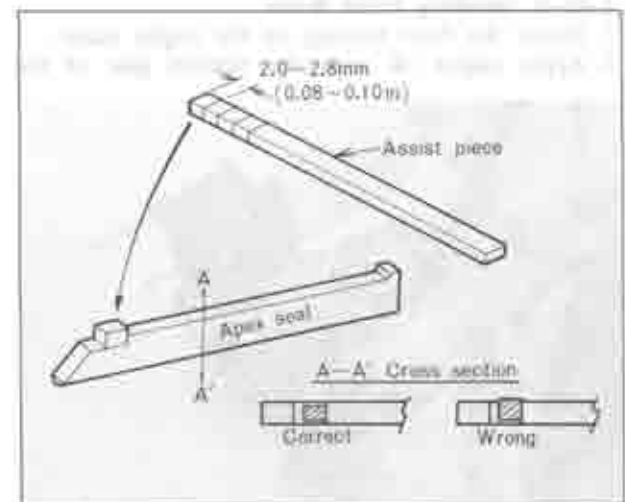

Fig. 1-54 Sticking assist piece
3. Peel the paper stuck on the assist piece and stick the assist piece on the apex seal, as shown in Fig. 1-54.